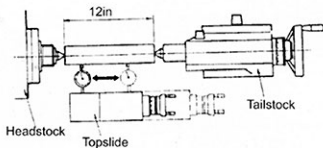

Fig.27
1. Fit a 12" ground steel bar between centers of the headstock and tailstock. (See Fig.27)